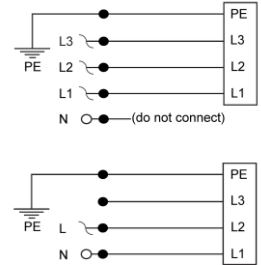

fig 3 - 2
- For a single phase grid, connect Null and Line between L1 and L2, see fig. 3 - 2.
- These terminals are located at the rear side, marked as CON B1 (PLUS) and CON B2 (MINUS), see fig. 3 - 1.